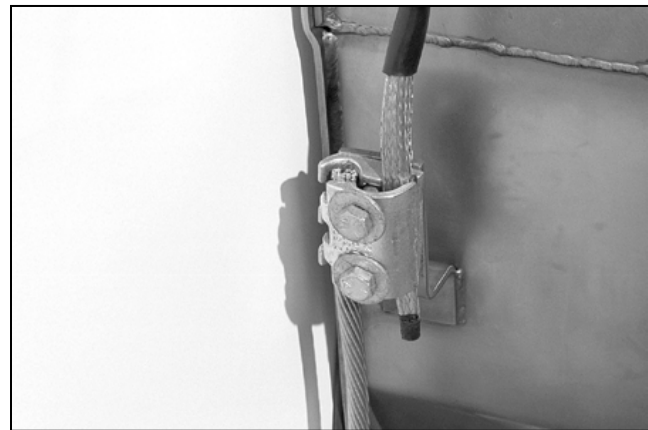

Figure 53. Connect shielded cable to tank ground.
- STEP 2.** Connect the ground pad of the tank to the system ground facility in accordance with the user’s standard grounding practice. See Figure 53. Use the equivalent of 4/0 copper (or cable sized in accordance with the user’s standard practice) in either a single or multiple connection to realize the maximum momentary rating of the switchgear. For a multiple connection, cables smaller than 1/0 copper or equivalent should not be used.